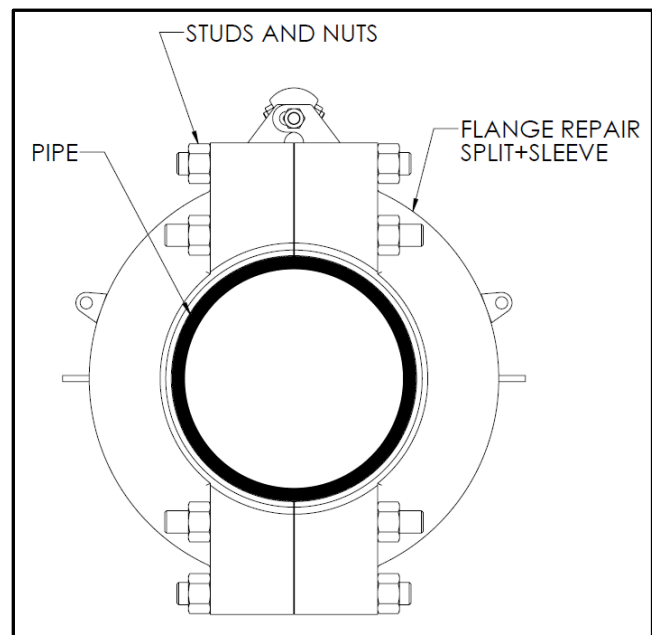

Figure 9
6. Once the fitting is wrapped around the pipe, insert the studs through the bolt holes and thread on the nuts as shown in Figure 9. Proceed to tighten the studs and nuts per these installation instructions.